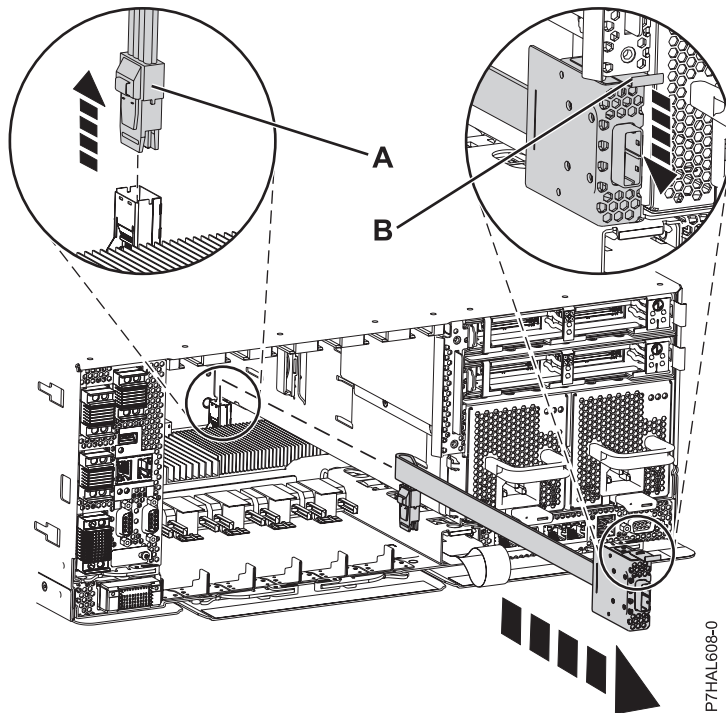

Figure 51. Removing the SAS cable
4. Press the side tab and pull the SAS shroud (A) out of the SAS connection port on the system backplane, as shown in Figure 51 on page 78.
5. Push the external SAS port down (B) and then pull the SAS cable out of the system.